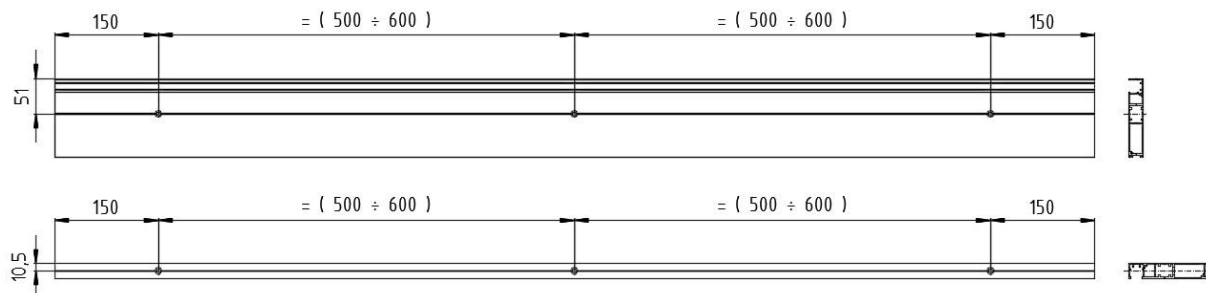

Fig. 15. Scheme of preparation of the installation holes in the guide rail profiles.
6. Drill mounting holes in the guide in accordance with Fig.15.